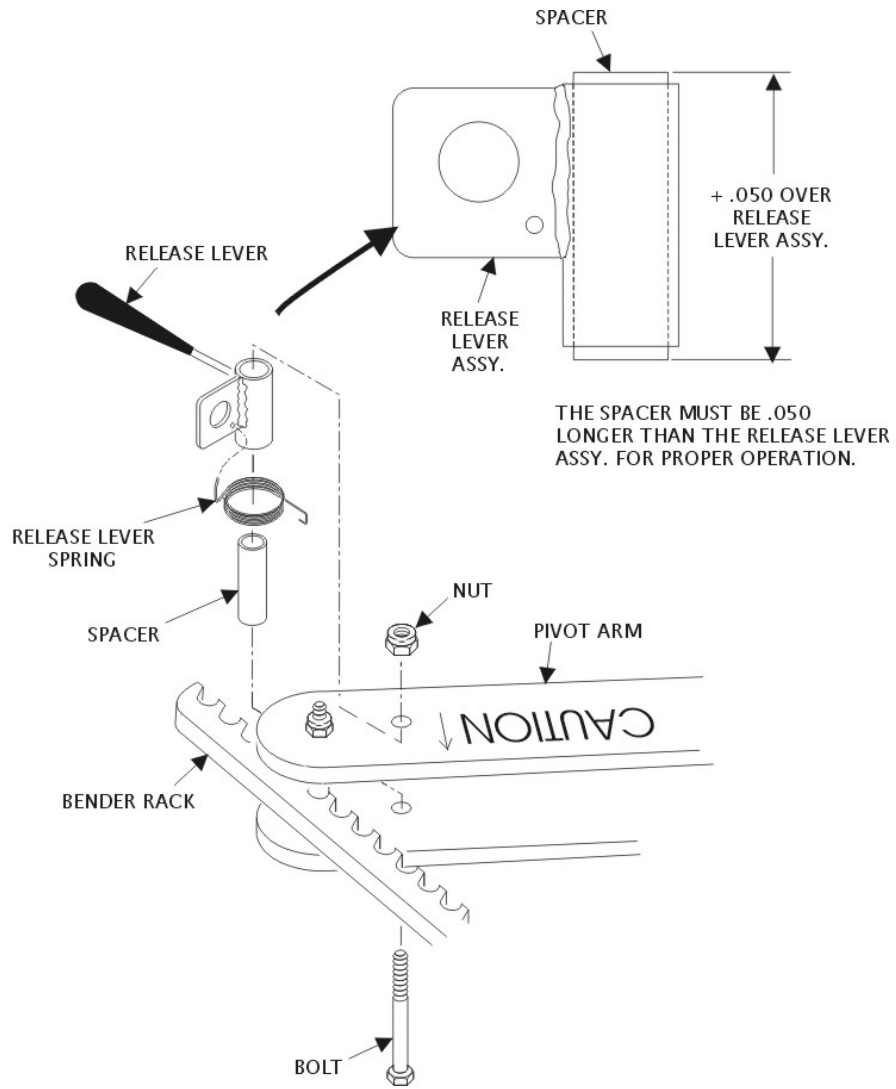

Figure 3.
NOTE: The sleeve must be approx. .050 longer than the release lever assembly for proper operation. See Figure 3.
7. Remove the nut, washers, sleeve and bolt from the main arm. See Figure 3.
8. Install the collar and sleeve into the anti-spring back rod eye per Figure 3. DO NOT tighten collar set screw at this time.
10. Install the rod eye into the main arm locating it over the bolt holes per Figure 3.